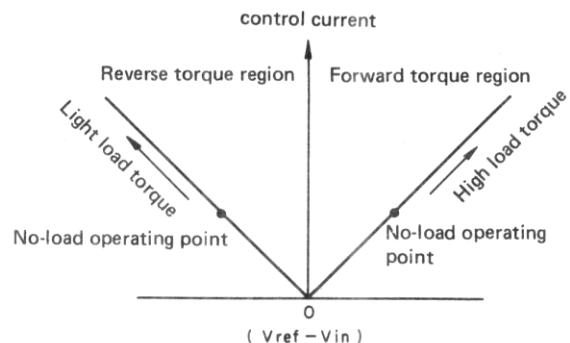

Fig. 5-7 Input/output characteristics
- The signal at the 6 pin (control input) is compared with the signal at the 5 pin (reference voltage) and the difference in voltage is used to generate current in the motor winding. The input/output characteristics are shown in Fig. 5-7.